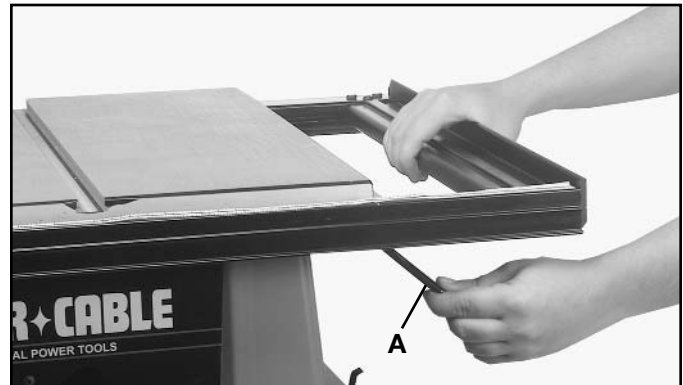

Fig. 24
To extend the rip fence guide rails pull lever (A) Fig. 24, to the right, and pull out on the guide rails. Then lock the extended rails.